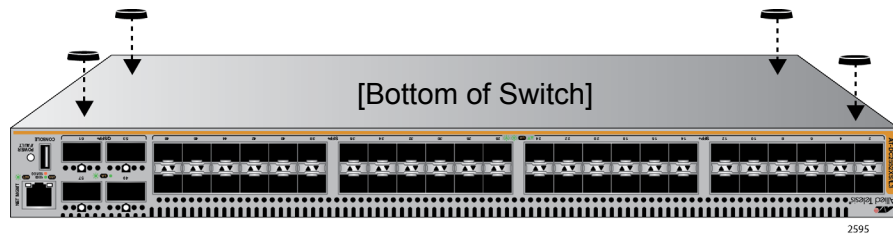

Figure 20. Attaching the Rubber Feet
4. Four rubber feet are provided in the switch shipping container, see Figure 17 on page 53. Attach the feet to the bottom of the switch in the corners as shown in Figure 20.